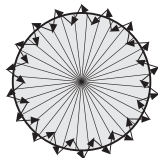

FIG.20
- Walk from outside across to the detection pattern until red LED turns on for approx. 2sec then off, the next trigger should be 2sec interval (See FIG.20).